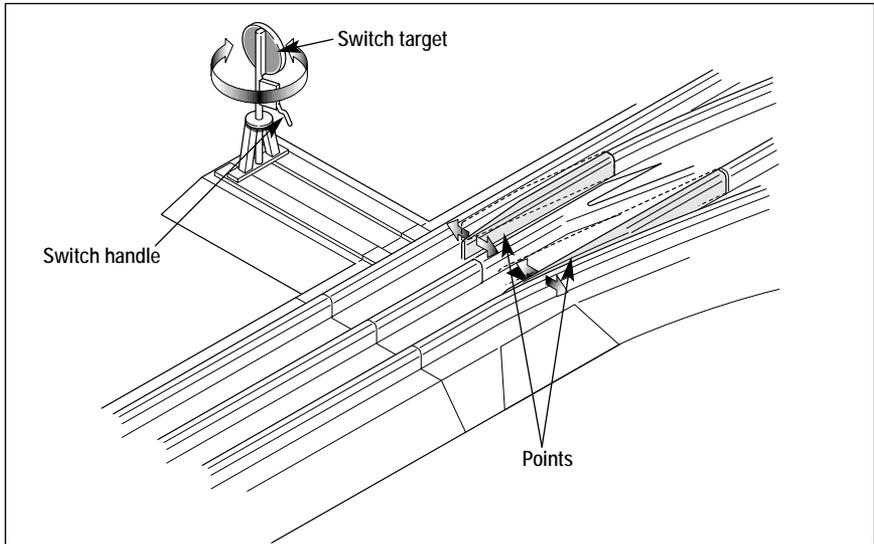

Figure 3. Throwing the switch
As illustrated in Figure 3, rotate the top of the switch stand to throw the switch. The switch is equipped with a non-derailing feature. The train's wheels automatically throw the "points," or the moving rails, to the proper position when the train travels toward the converging track. If you experience difficulties, simply throw the switch into the correct position for the train to travel using the switch stand controls.
3. Remove the two screws that secure the switch stand roadbed section to the switch. Please note that these screws are located towards the inside edge of the switch stand roadbed section. Lift away the switch stand roadbed section being careful to prevent the switch target and handle from rotating more than a quarter turn. (The handle and target are labeled in Figure 3 on page 5.)
4. Slide the blades to the opposite position to access the slot at the end of the switch control arm. The blades are illustrated in Figure 3 on page 5.